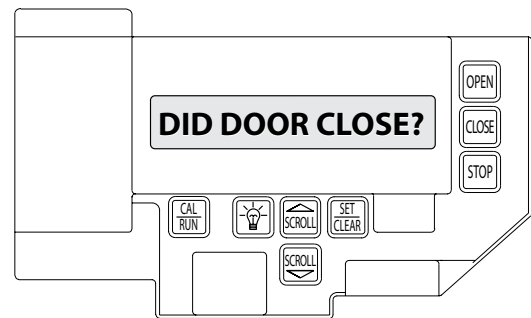
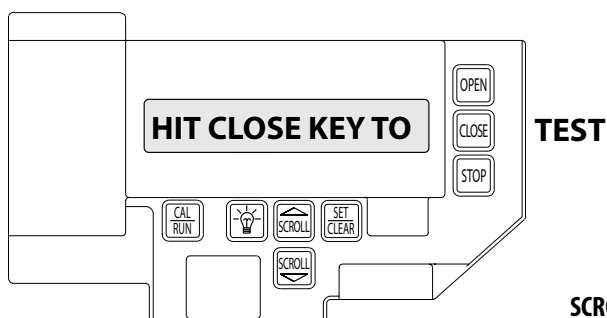

FIG. 3
FIG. 2
3. Display will read 'HIT CLOSE KEY TO TEST'. Briefly press the CLOSE key. FIG. 2 (Pressing the Scroll key at this point will exit this function). * The display will read 'DID DOOR CLOSE >YES< NO' FIG. 3.